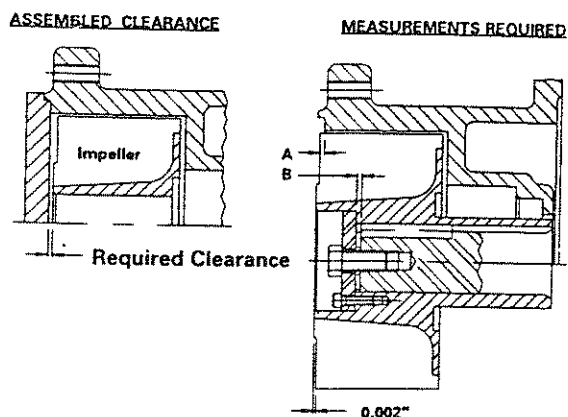

FIGURE 7
Refer to Figures 7 & 10
4. Place a straight edge across the impeller and measure the clearance between the straight edge and machined mounting face of center body (10.50) using feeler gauges (refer to Figure 7). Record this dimension.
5. Total the required clearance per Table 7 and trial clearance measured in Point 4. **NOTE:** Straight edge must be across impeller hubs, since blade tips are recessed 0.002", per Figure 7.